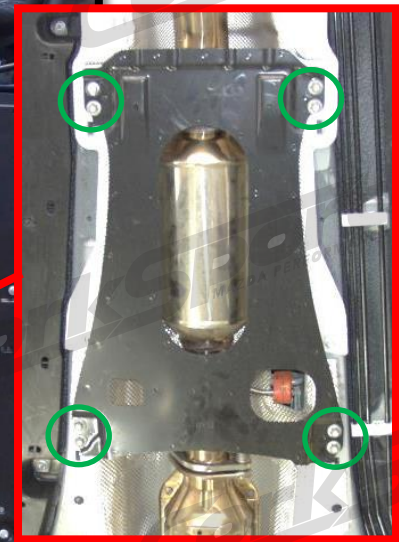

Figure 4d
- d) Replace the chassis brace and fasten it to the car (green circles in Figure 4d).
d) Replace the chassis brace and fasten it to the car with the eight (8) 12mm bolts (green circles in Figure 4d). Tighten to 20ft-lbs.